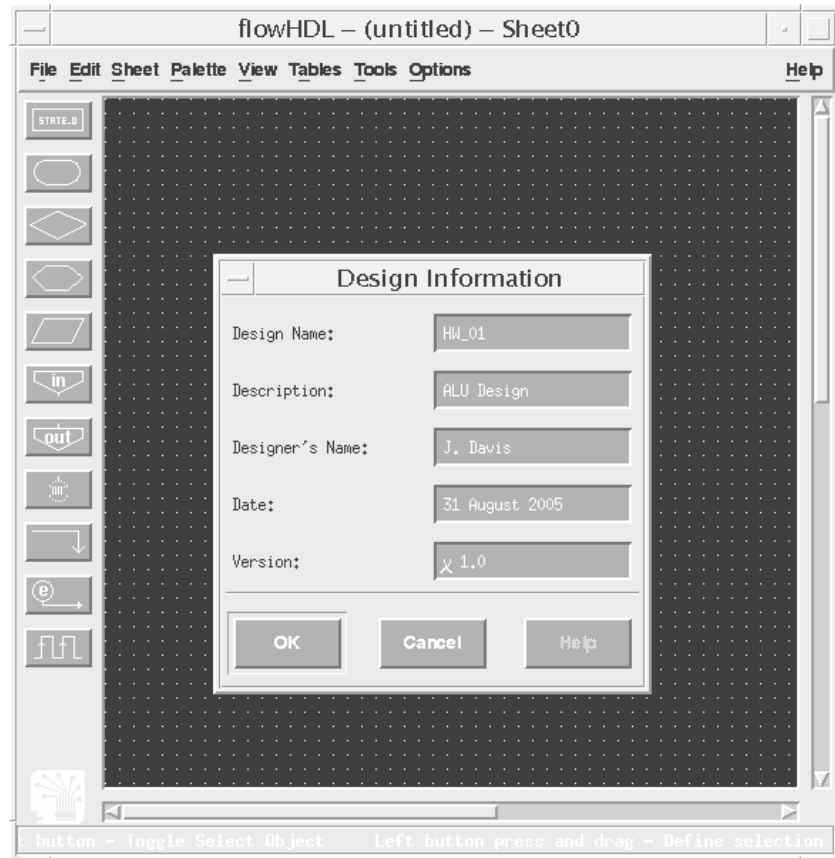

Figure 6. Design Information entry dialog box.
- (6) Now, once you get the model completed, you’ll want to do the following:
- (6a) enter your design information, through the “Options -> Design -> Information” menu dialog. Enter a new design name (so spaces or non-alphanumeric, except “\_” underline character, are not permitted), and specify your name and date and design version (which is v1.0). Use the information as shown in Figure 6.